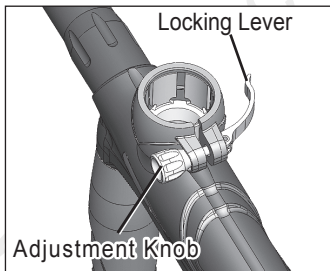

Figure 4: Feed Neck Detail
- b. Open the Locking Lever (64). Install the Hopper into the Feed Neck (63/62). Close the Locking Lever to secure the hopper to the Feed Neck.
- c. If it is necessary to adjust the clamping force of the Locking Lever, open the Locking Lever (Figure 4). Turn the Adjustment Knob (66) clockwise to tighten (or counterclockwise to loosen) the clamping force of the Locking Lever. Close the Locking Lever and check the clamping force on the hopper.